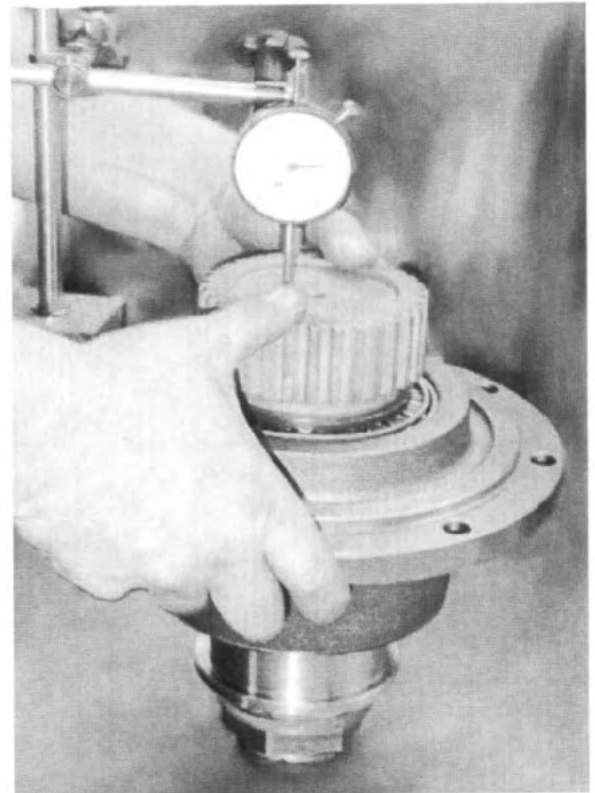

Fig. 54
7. Attach a dial indicator, as shown, and record the shaft end float by lifting up on the carrier. The shaft end float should be: **0.003-0.008 loose**. See Fig. 54.